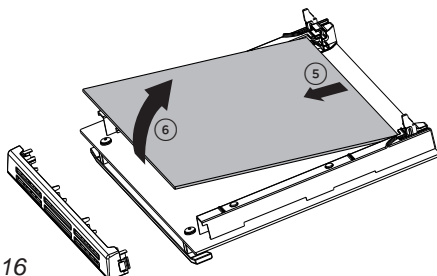

Fig. 10.16
- Gently lift and pull out the middle pane of glass by releasing it from the bottom retaining notches (fig. 10.16).